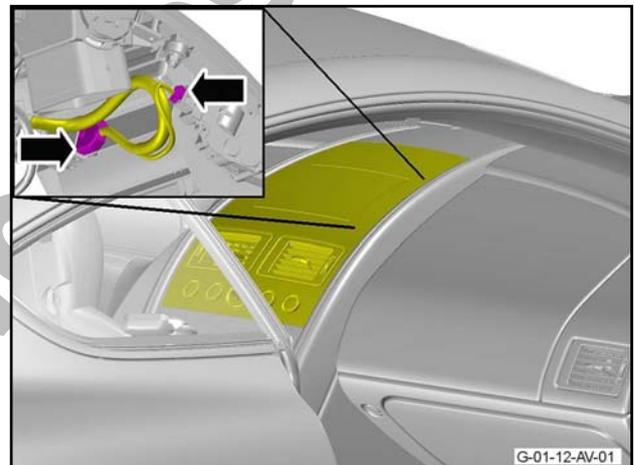

Figure 7
8. Disconnect the two electrical connectors from the navigation display screen (Refer to Figure 7).